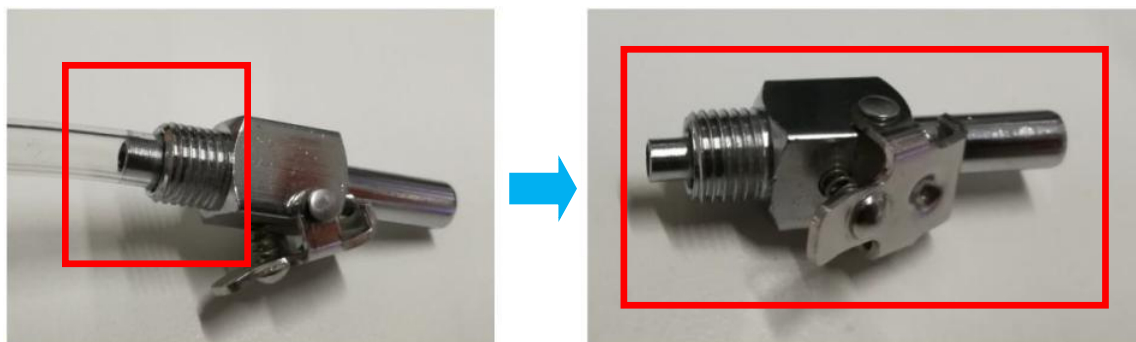

Figure 9
11. Gently remove the existing tubing from Parker Clip Fitting as Figure 9.